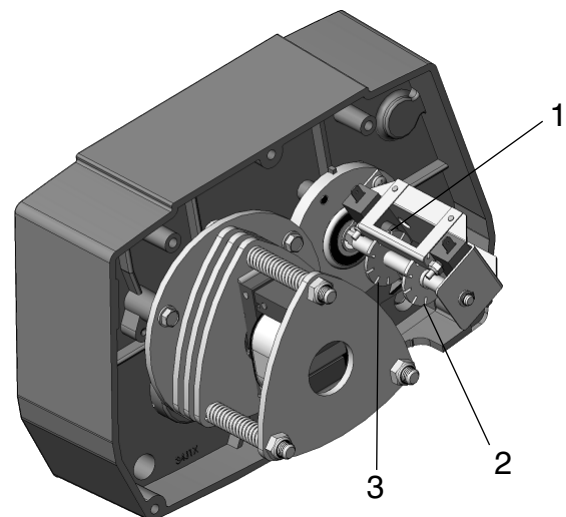

FIGURE 5-1. LIMIT SWITCH ADJUSTMENT
Limit switches are provided to protect the hoist against damage resulting from overtravel. For easy identification the upper (No. 2, Figure 5-1) and lower (No. 3, Figure 5-1) limit switch adjusting nuts are colored brass and zinc respectively. Each limit switch nut has ten slots for adjustment, and the increment of adjustment is such that one slot is equivalent to one link of chain travel. Care should be exercised when adjusting either limit of travel. When a geared type limit switch is furnished (long lift hoists) each adjustment is equal to 3 links of chain, or 30 links per revolution.
- 3.) With a screwdriver, pry the spring guide plate (No. 1, Figure 5-1) out of the slots in the colored limit switch nuts (Nos. 2 and 3).
- c. With a screwdriver, push the spring guide plate (No. 1, Figure 5-1) out of the slots in the limit switch nuts. Turn the brass slotted nut (2) back to about the center of the threaded screw. DO NOT DISCONNECT THE WIRES FROM THE LIMIT SWITCHES.